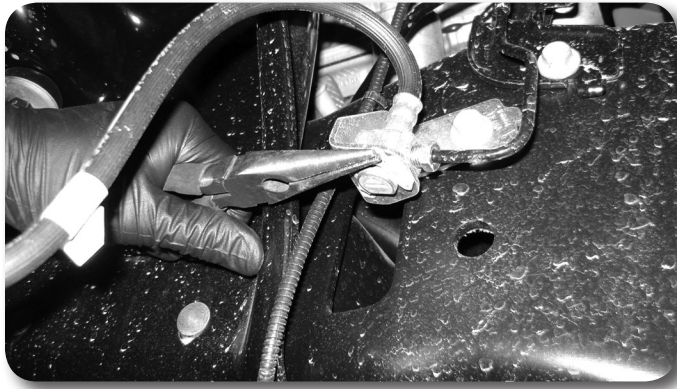
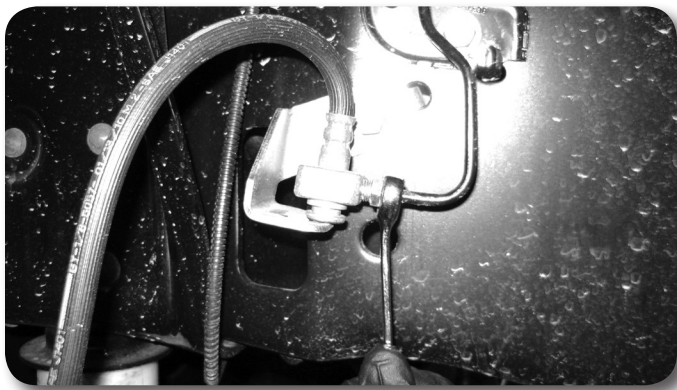

Figure 5A
Figure 5B
9. Remove the clips holding the front brake lines to the brackets on the frame. **Figure 5A** Using a proper line wrench, break loose the hard line at the junction block and rotate it 180 degrees. **Figure 5B** This will put the rubber line to the bottom. Tighten the hard line securely. Leave the brake line loose and save the retaining clip.